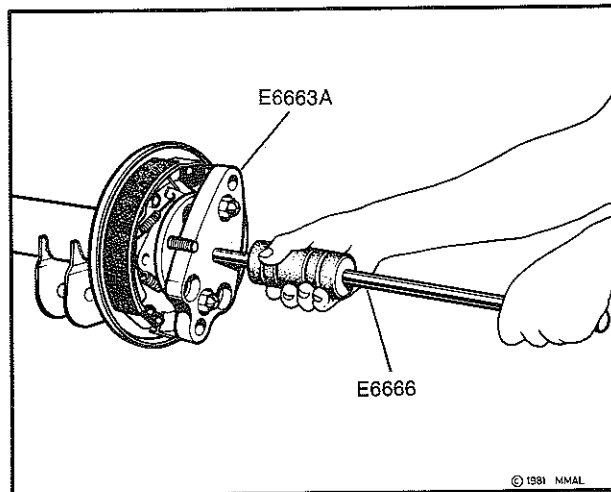

Fig. 2—Removing axle shaft
- (4) Using tool E6663A and slide hammer E6666, remove the axle shaft, refer Fig. 2.